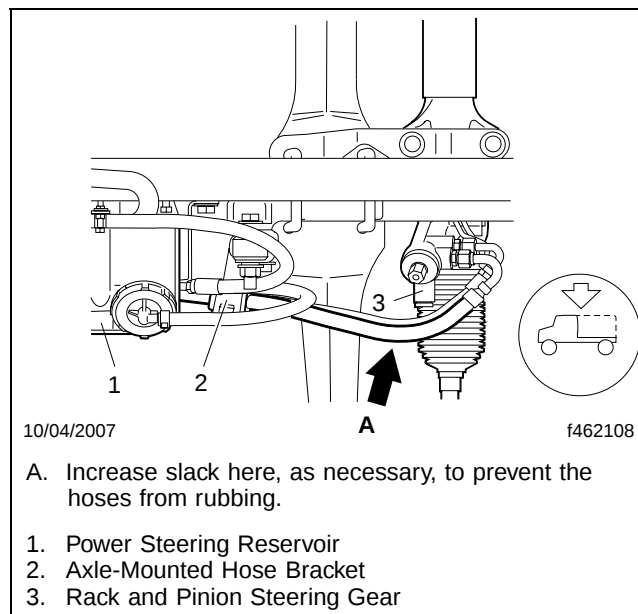
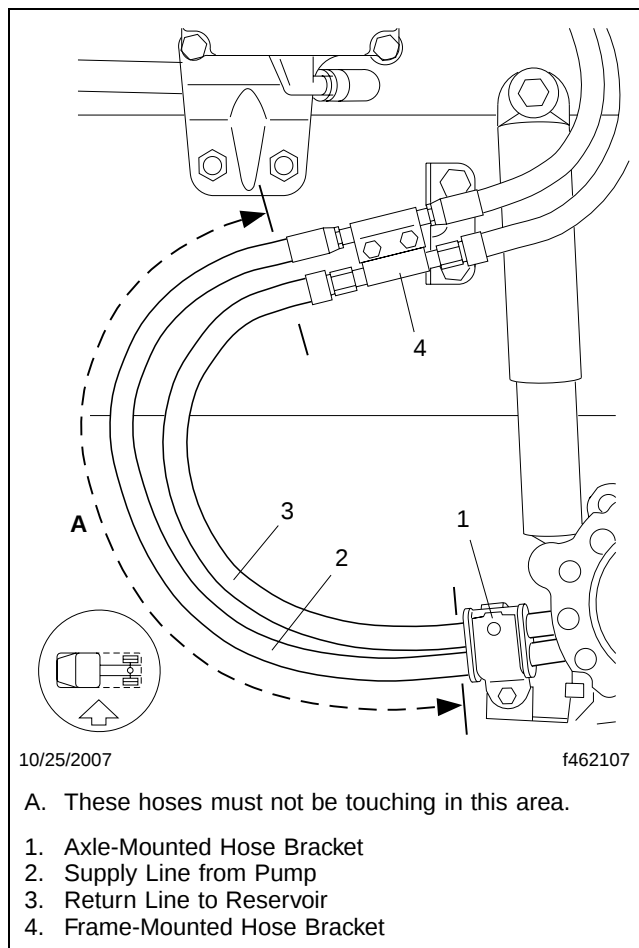

Fig. 11, View from Above
Fig. 12, Side View (fuel/water separator installed forward)
49. Include a little slack in the return line between the steering rack and the axle-mounted hose bracket (**Fig. 11**), to keep the hoses between the axle-mounted hose bracket and the frame bracket (**Fig. 12**) from rubbing together.